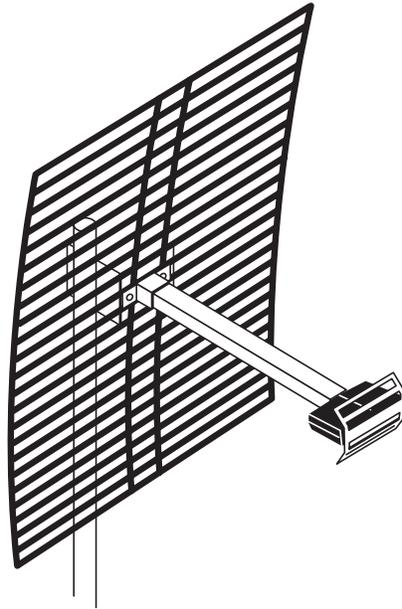
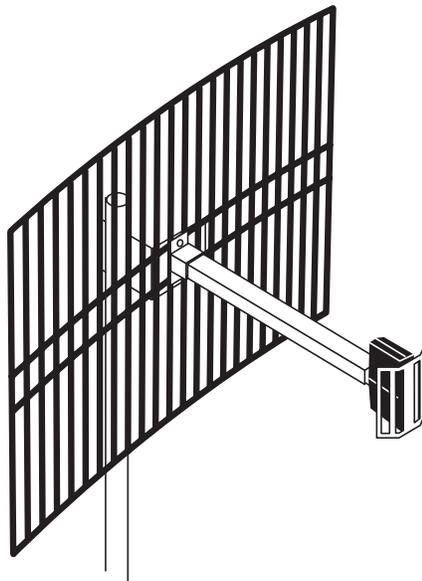

Figure 3-1. Horizontal Polarity.
Figure 3-2. Vertical Polarity.
Figure 3-1 shows the antenna in position for horizontal polarity. **Figure 3-2** shows it in position for vertical polarity.
Refer to **Figure 3-1** for proper feed alignment.
Refer to **Figure 3-2** for proper feed alignment.
3. Determine the polarity of the antenna. (See **Figures 3-1** and **3-2**.)
5. Re-check the dipole feed assembly for the proper polarity (see **Figures 3-1** and **3-2**).